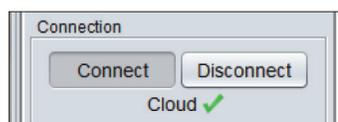

Figure 41
8. Confirmation Cloud communication is active (Figure 41)